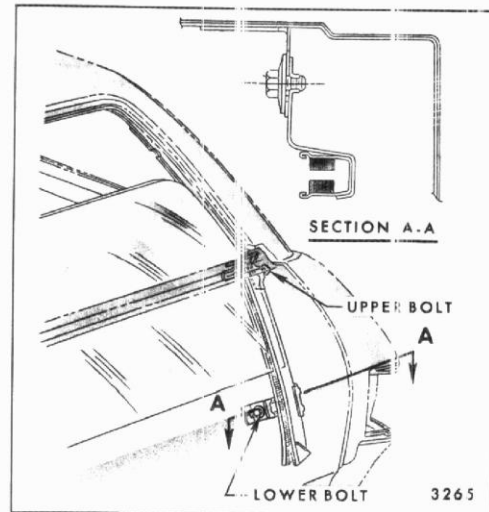

Fig. 9-6-Tail Gate Lower Glass Run Channel Attachment
3. Remove lower attaching bolt - accessible through inner panel access hole (Fig. 9-6).